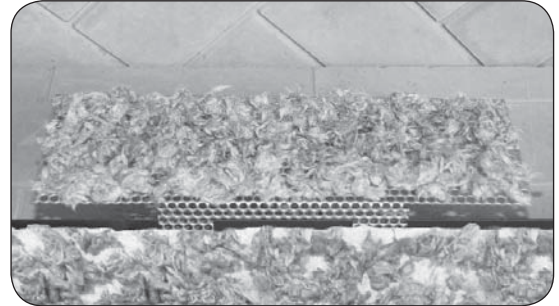

Fig. 14-2 Cover screen with embers
2. Cover the surface of the ember screen with the additional glowing embers as shown in Fig. 14-2.